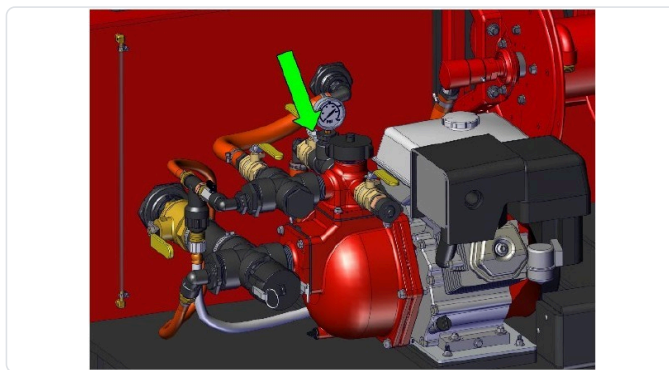

Figure 6. 1" Pump to Tank valve (shown fully open)
- b. Crack the 1" Pump to Tank valve open slightly (Figure 6).
During pumping, **leave the Pump to Tank valve open slightly** to bypass water through the pump (*Figure 1, Item 2 or Figure 6*). This keeps the pump from overheating if the nozzle at the end of the reel line is fully closed.